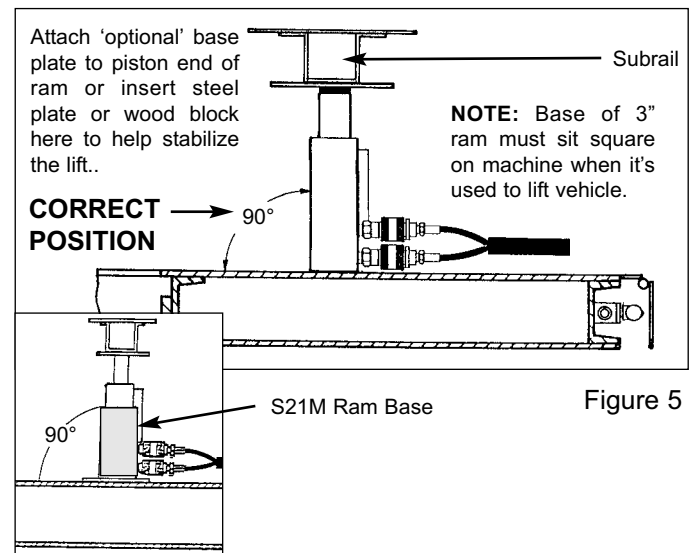

Figure 5
1. Whenever possible, use S21M ram base accessory for additional stability. (See Figure 5 inset.)